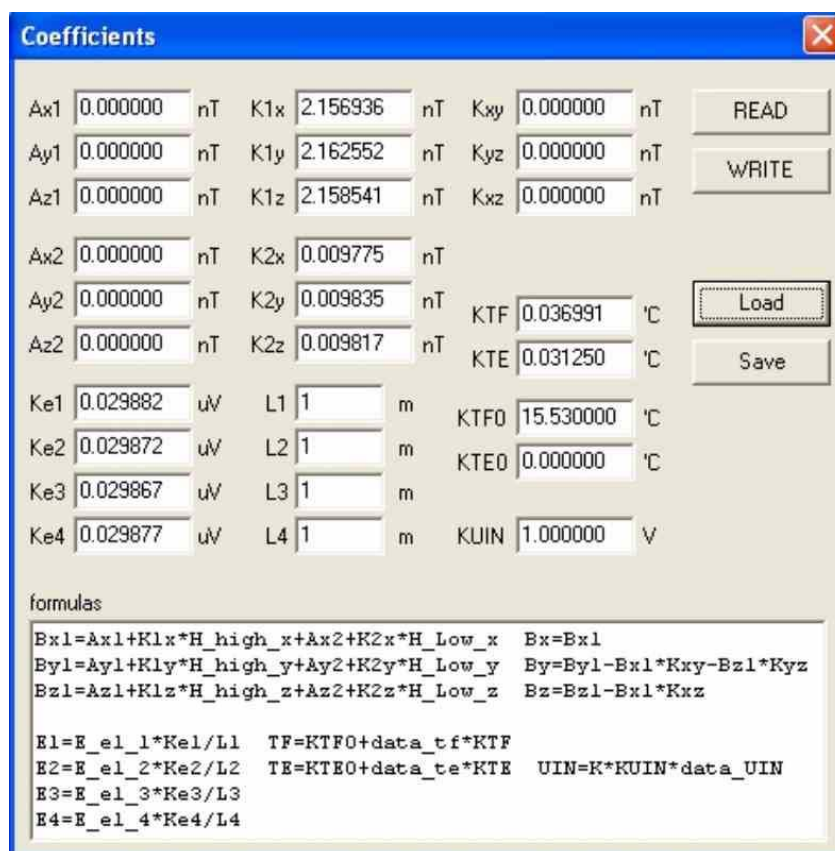

Fig.10. Dialog window "Coefficients"
5. Open window «Coefficients». (Fig.10). In this window calibration coefficients can be read from LMTI, edited and written back during calibration procedure.